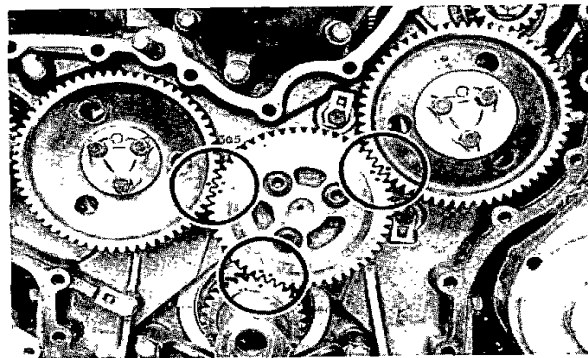

Fig. 84. Basic setting of auxiliary drive gears
3. Fit the idler gear so that the markings are aligned (fig. 84).